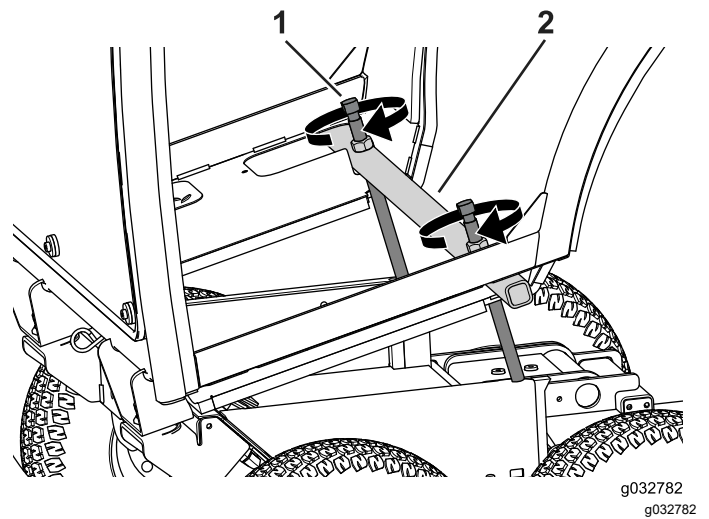

Figure 67
2. Position the lift-bar assembly across the cab frame (Figure 67).
3. Alternate between turning the lift screws, a few turns at a time until the cab pivots forward (Figure 67).